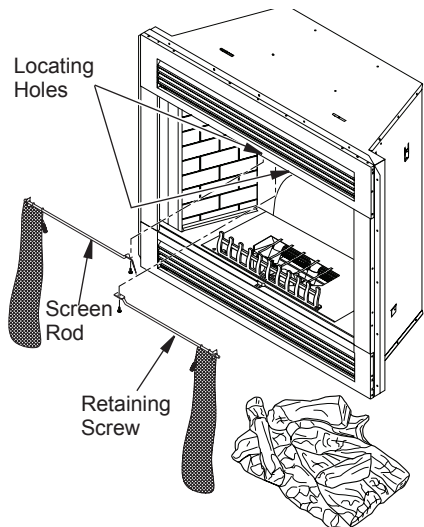

Figure 18 - Removing Screen/Rod Assembly
2. Remove each retaining screw holding screen rods and pull entire screen and rod assembly out of locating hole on inside top edge of firebox (see Figure 18).